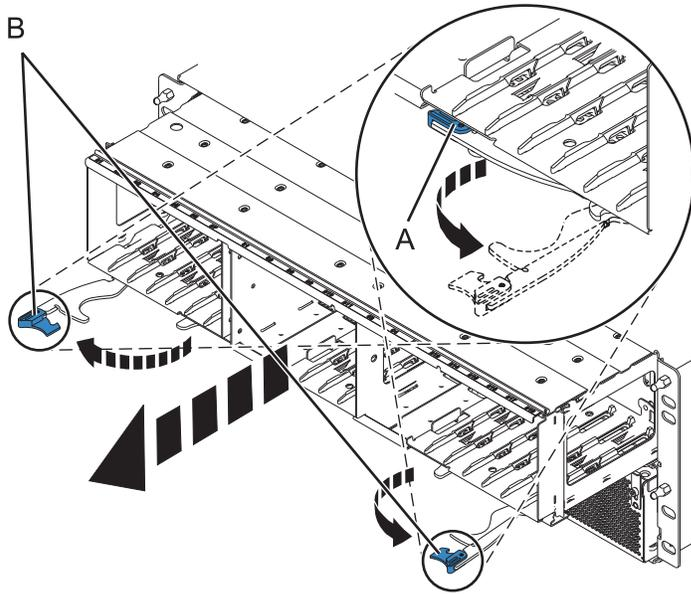

Figure 93. Removing the backplane from the enclosure
5. Remove the backplane as shown in Figure 93 on page 131.